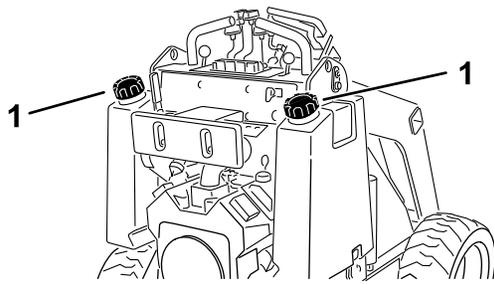

Figure 3
3. Clean around the fuel-tank cap and remove it (Figure 3).